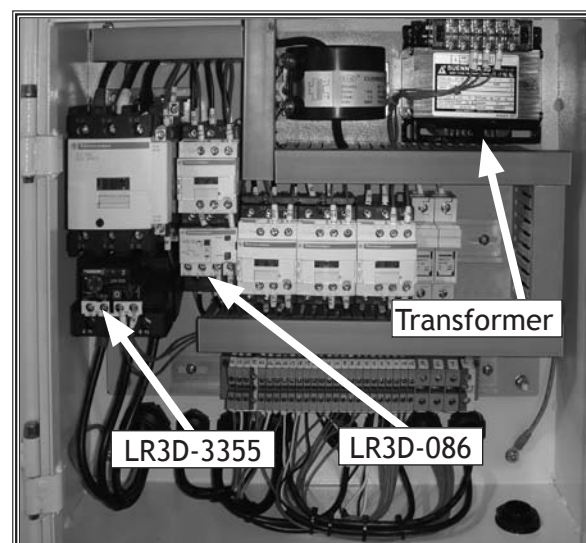
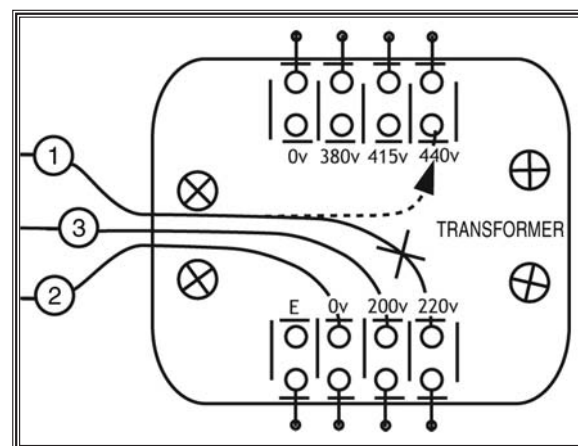

Figure 6. Overload relay and transformer location.
Figure 7. Transformer 220V to 440V connection.
3. Remove the wire labeled "1" at the 220V terminal of the control power transformer (**Figure 6**) and connect it to the 440V terminal (**Figure 7**).
4. Remove the LR3D-3355 overload relay (**Figure 6**), and replace it with an LR3D-3322 (X1738003-1) type, with the dial set to 18A.
5. Remove the LR3D-086 overload relay (**Figure 6**), and replace it with an LR3D-076 (X1738011-1) type, with the dial set to 1.7A.